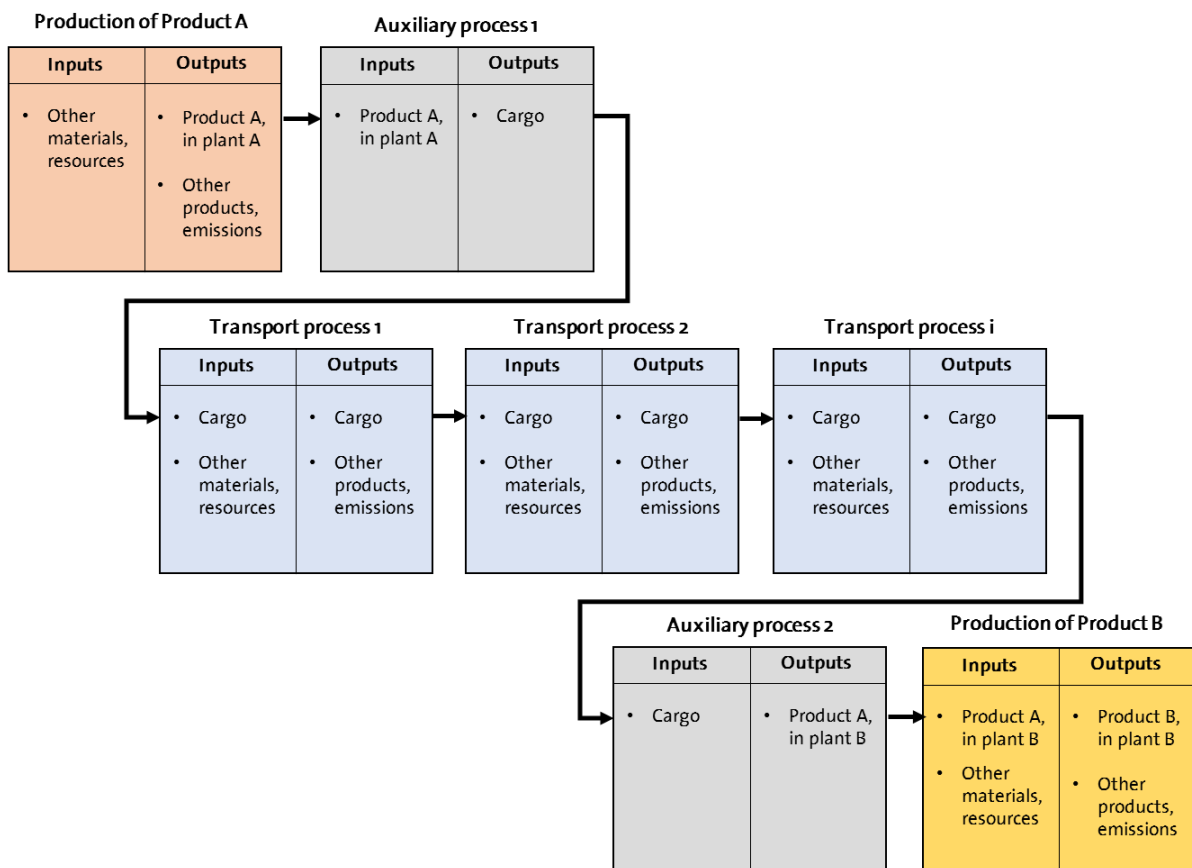

Figure 10. Option 2 suggested for transport modelling using GaBi databases in openLCA.
- **Option 2:** Creation of two auxiliary processes to relate the product with the cargo flow, and vice versa. The new process will contain the flow representing the material to be transported as input and the cargo flow as output, with equal amounts. Likewise, another process with cargo as input and the material at the final destination as output will also be needed (Figure 10).